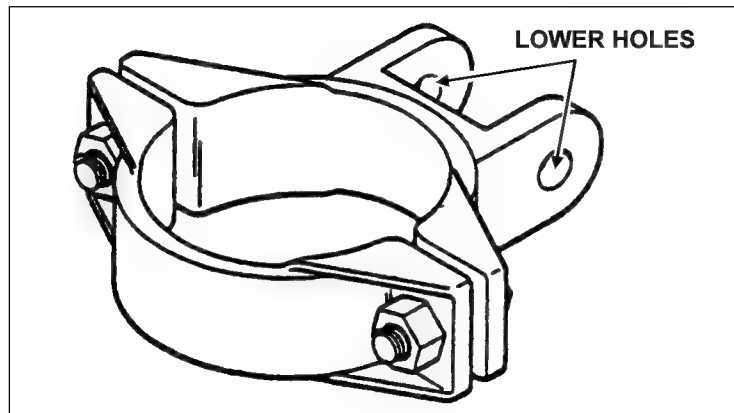

Figure 3-17. Travel lock bracket.
(5) ***Travel Lock Bracket.*** This bracket allows the travel lock adapter to be used with the M4 pedestal mount. It has two halves that are secured around the pedestal with nuts and bolts. The bracket is attached to the travel lock adapter by aligning the lower holes (Figure 3-17).